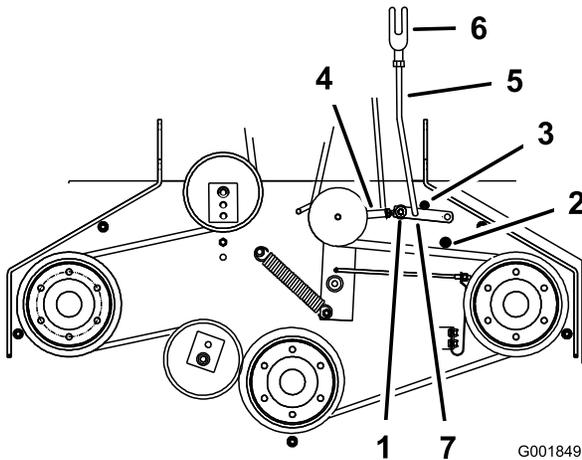

Figure 47
5. Make sure the assist arm is against the rear assist arm stop on the deck (Figure 47).
7. The assist arm should contact the front assist arm stop on the deck. If it does not contact, adjust the bellcrank so it is closer to the gusset (Figure 47).
8. To adjust the assist arm link, remove the hairpin cotter pin from the assist arm (Figure 47).
11. Install the assist arm link into the assist arm and secure it with the hairpin cotter pin (Figure 47).